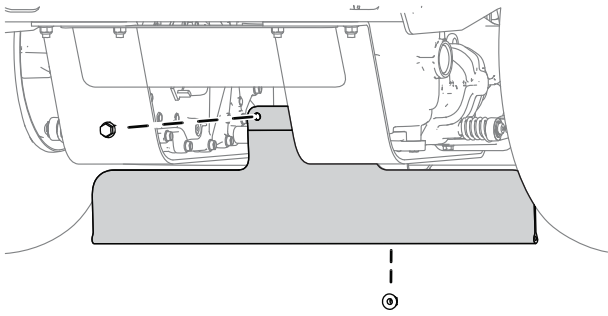

Figure 5
3. Install the shield using 2 bolts (5/16 x 3/4 inch) and 2 nuts (5/16 inch) as shown in Figure 5. The shield should be able to swing back and forth.